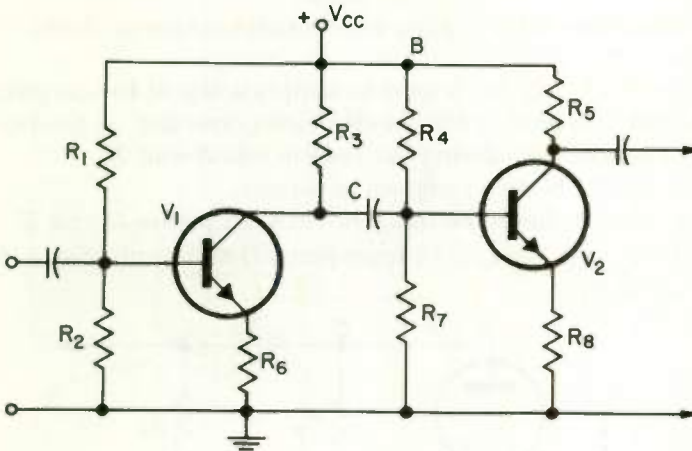

Fig. 33
- (1) Plate voltage too high or too low
- (2) Coupling between heater and cathode
- (3) Leaky or open filter capacitor
- (4) Shorted power supply filter choke
- (5) Stray field pickup from an unshielded power transformer
11. Figure 33 shows a two-stage audio amplifier using NPN transistors. This circuit needs correction as follows: